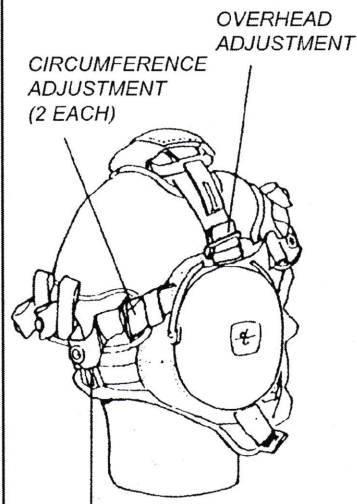

FIGURE 5
- Adjust the strap across the nape—(See Figure 5)